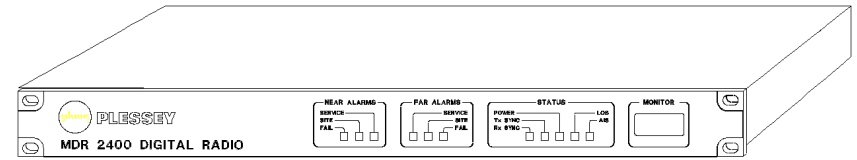
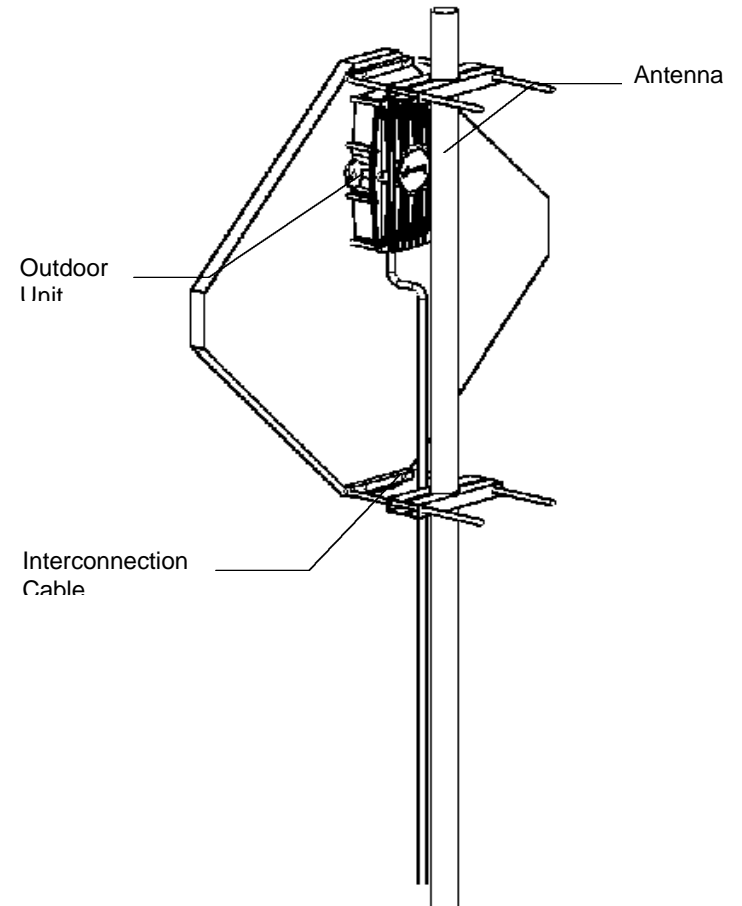
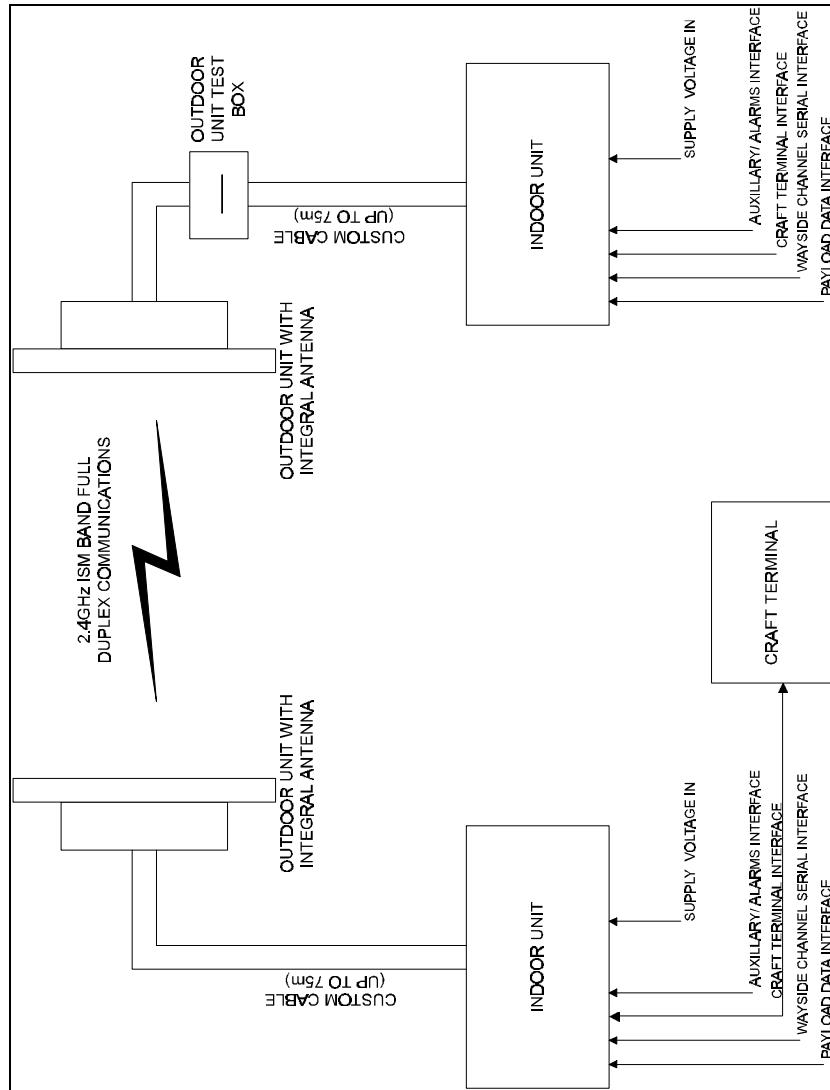

Figure 1. μLink Indoor Unit.
Figure 2. μLink Outdoor Unit and Antenna.
Figure 3. System Overview Block Diagram.
**System Overview** A μLink digital radio relay link (DRL) consists of at least one complementary pair of μLink stations that may be extended over longer distances by linking further station pairs in a multiple hop configuration. A single μLink station comprises an Indoor Unit (Figure 1), an Outdoor Unit and Antenna (Figure 2). The Indoor Unit (IU) and Outdoor Unit (OU) are interconnected by a custom cable. Figure 3 is a block diagram of an μLink DRL.
- Co-locate two (2) antennas on a single mast.